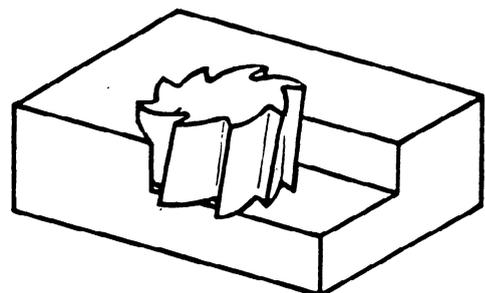

Figure 3 — End milling operation
- end milling operations (see figure 3).